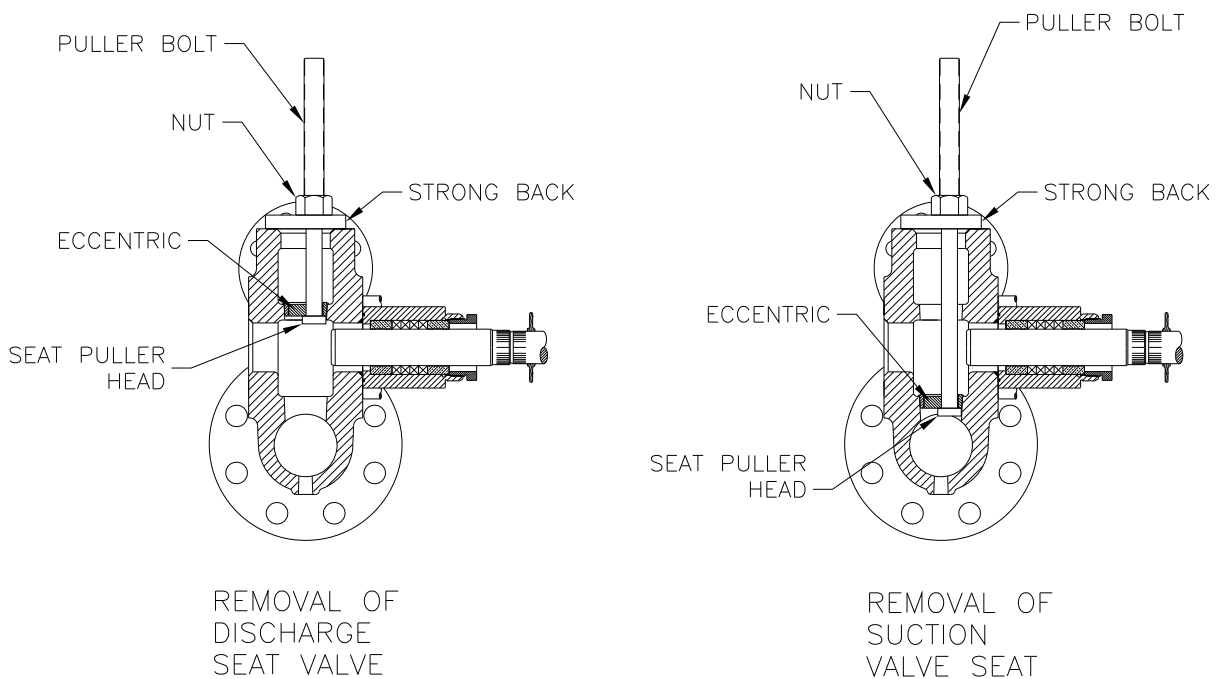

FIGURE 14
5. Use the special valve puller and remove the seat. See Figure 14.